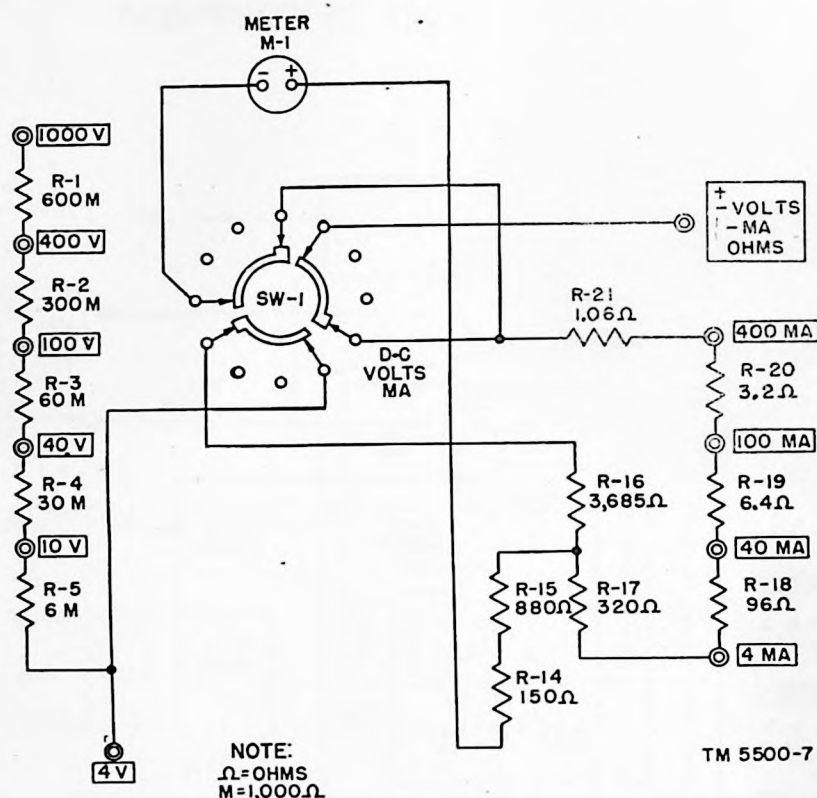

Figure 7. D-c volts—ma circuit, schematic diagram.
a. MILLIAMMETER (fig. 7). When the multimeter is used to measure direct current, the meter is connected to a universal shunt composed of resistors R-21, R-20, R-19, R-18, R-17, R-15, and R-14. R-14 compensates for resistance variations in the circuit due to temperature changes. Taps taken off between the shunt resistors vary the current sensitivity so that current introduced into the appropriate tap may be measured from 1 ma to 400 ma.
b. D-C VOLTMETER (fig. 7). When the multimeter is used to measure d-c voltage, a tap of the universal shunt is used to obtain a sensitivity of 1 ma, and resistor R-16 is added to the circuit as the multiplier for
(2) Simplified, partial schematic diagrams, by which electrical functioning of circuits can be quickly followed (figs. 7, 8, and 9).